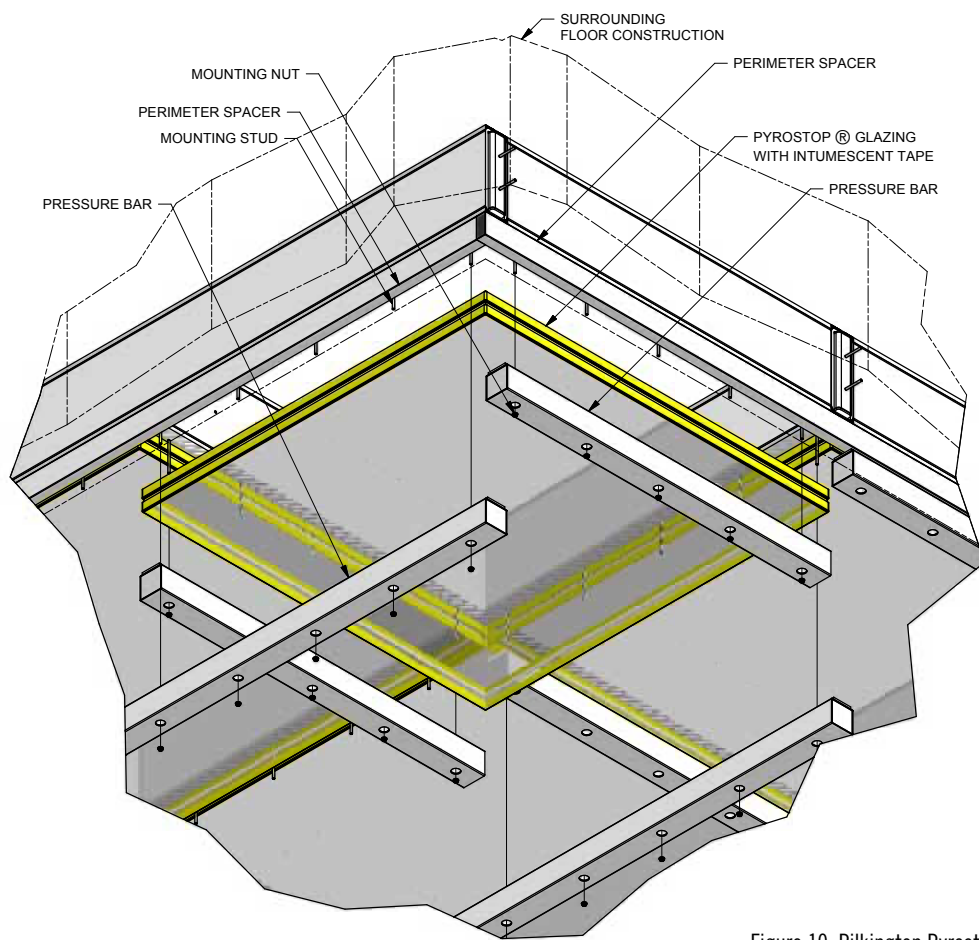

Figure 10: Pilkington Pyrostop® Installation
1. Perimeter spacers are to be installed around the outside of the system. This ensures even glazing pressure on the glass. Perimeter spacer location will be marked on the TGP supplied project drawing (See Figure 10).
1. Pressure bars are to be installed with supplied mounting nut (5/16" nylon locking hex flange nut). Tighten nuts evenly along length of pressure bar just snug enough to create a seal between the glass and the silicone gasket on the joist beams. DO NOT OVERTIGHTEN OR GLASS BREAKAGE WILL OCCUR (See Figure 10).